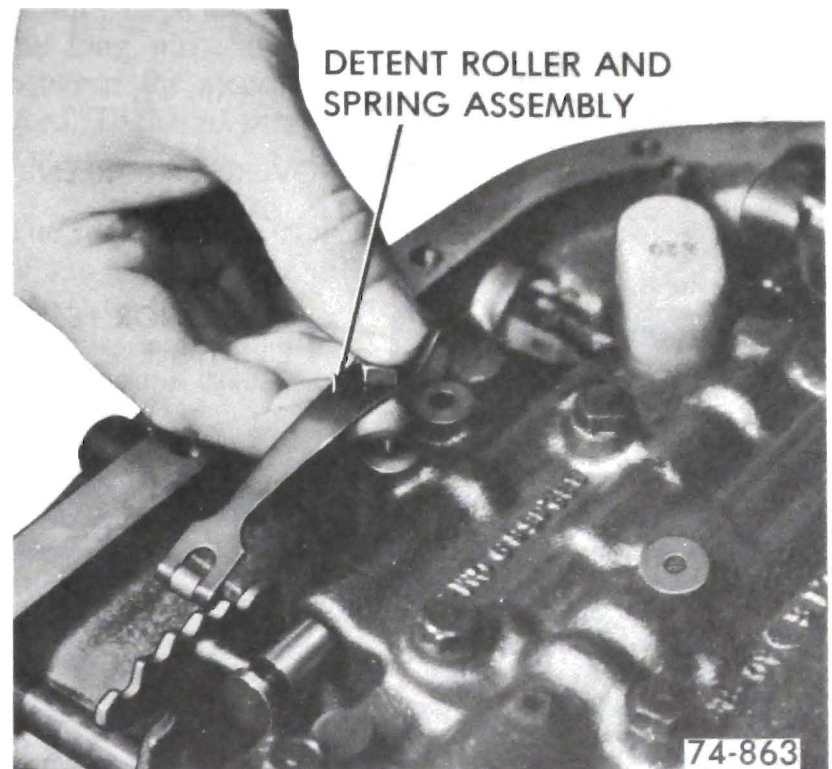

Figure 76-59
3. Remove valve body attaching bolts and detent roller and spring assembly. Do not remove solenoid attaching bolts. If transmission is in vehicle, front servo group may drop out as control valve assembly is removed. See Figure 76-59.